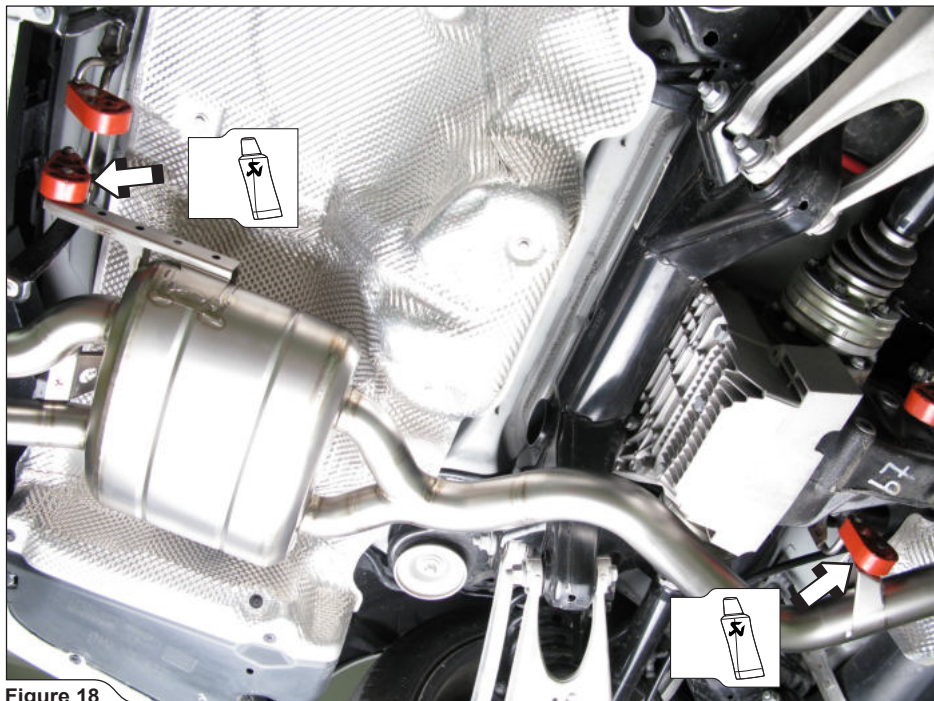

Figure 18
8. **For Slip-On and Evolution:** slide both Akrapovič mufflers onto the middle pipes and hang them onto marked stock rubber brackets (**Figure 18**).